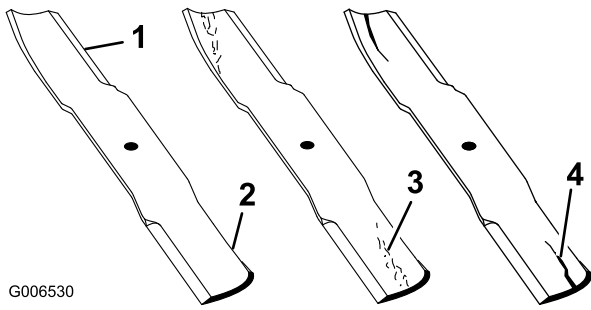

Figure 44
1. Inspect the cutting edges (Figure 44). If the edges are not sharp or have nicks, remove and sharpen the blades; refer to Sharpening the Blades.
2. Inspect the blades, especially the curved area (Figure 44). If you notice any damage, wear, or a slot forming in this area (item 3 or 4 in Figure 44), immediately install a new blade.